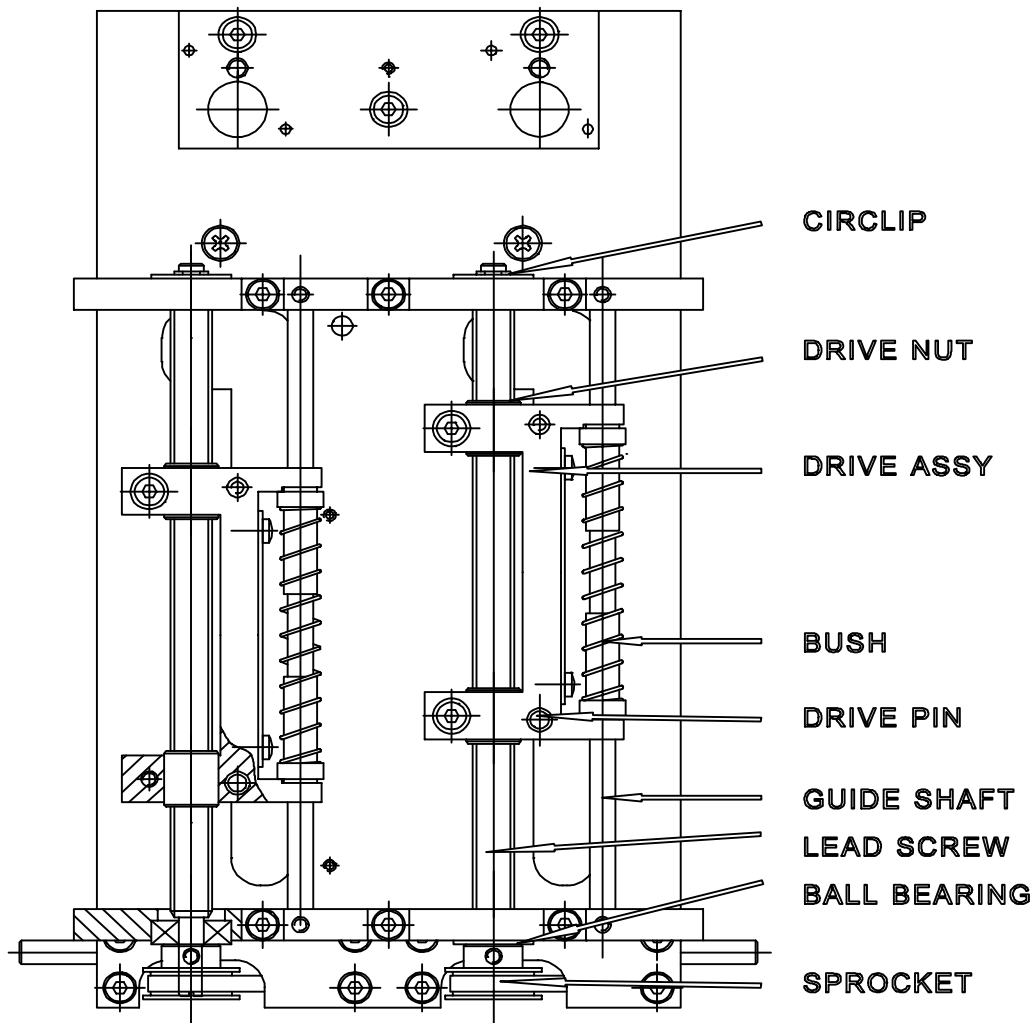

Figure 4.4 - Pipettor drive assembly
3. Remove the guide shaft by loosening the two set screws at each end, and slide it out of the beams (see figure 4.4). Be careful with the spring to jump away.